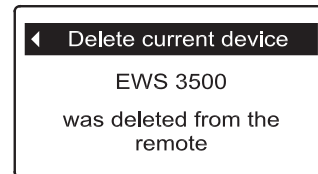

FIG. 132
5. Press the RIGHT (▶) button. The screen shown in Figure 132 will appear.